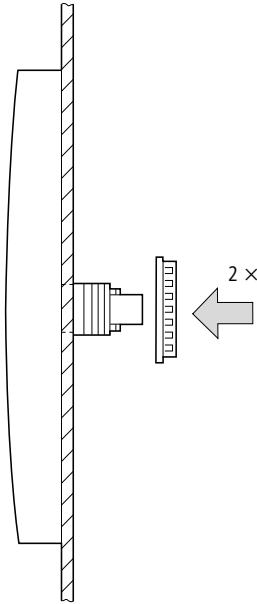

Figure 15: Screw fastening the display/operator unit
- ▶ Tighten the display/operating unit with the M22-MS mounting ring tool (→ figure 15).